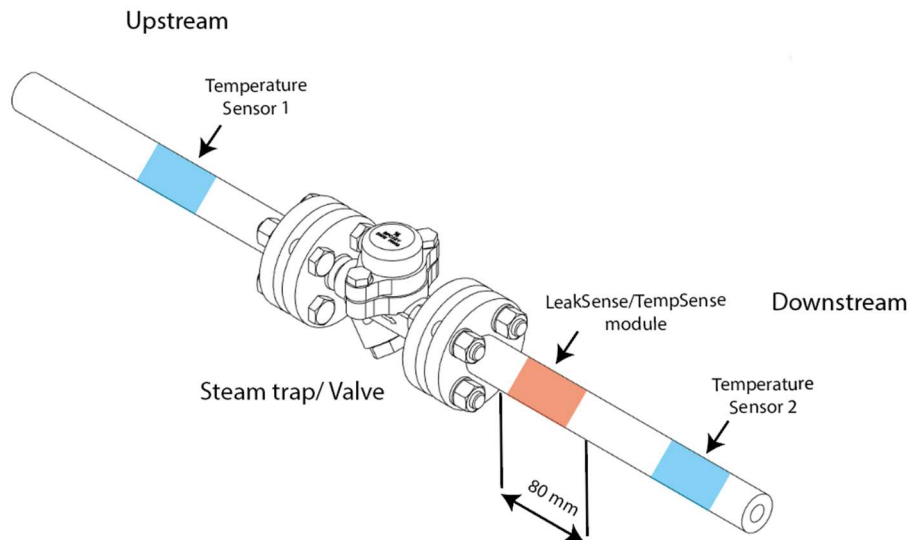

Figure 4.- Monitoring points selection
1. Identify an appropriate installation surface for the module, as can be shown in Figure 4. Bear in mind that exposure to high surface temperatures of or high ambient temperatures above those specified in the section "Technical data" may result in the degradation of the IIoT Wireless module. Installation on a pipe is recommended. At least 80 mm pipe segment is required, to properly install the module.
2. Define the monitoring points to install the surface temperature sensors, as can be shown in Figure 4. 80mm pipe segment is the optimal installation surface, to ensure suitable thermal monitoring. Installation on irregular surfaces is not recommended, due to inaccuracies on the surface temperature measurement.
1. Identify an appropriate installation surface for the module as can be shown in Figure 4. Bear in mind that exposure to high surface temperatures of or high ambient temperatures above those specified in the section "Technical data" may result in the degradation of the IIoT Wireless module. Installation on a pipe is recommended. At least 80 mm pipe segment is required, to properly install the module.